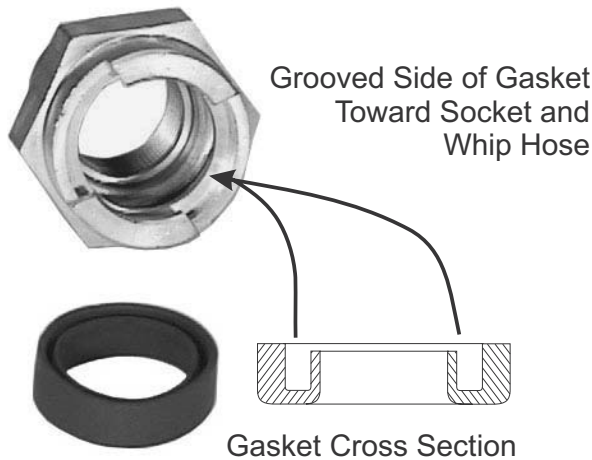

Figure 9-8. Insert New Gasket in Q.D. Socket.
1. With the grooved face of the Gasket (15) toward the Quick Disconnect (Q.D.) Socket (14) and Whip Hose (13), insert the new Gasket (15) into the Socket (14). Check that the gasket seats properly. Refer to Figure 9-8.